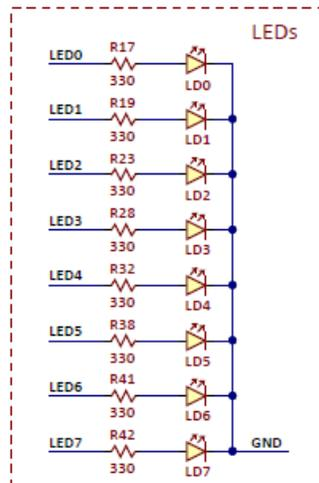

Figure A.3. Bsys MX3 LEDs.
3. Using the schematic diagram shown in Fig. A.3 for LED0 through LED7 on the Basys MX3 and Figs. 32-1 presented in Reference 2, when Vdd is 3.3V: